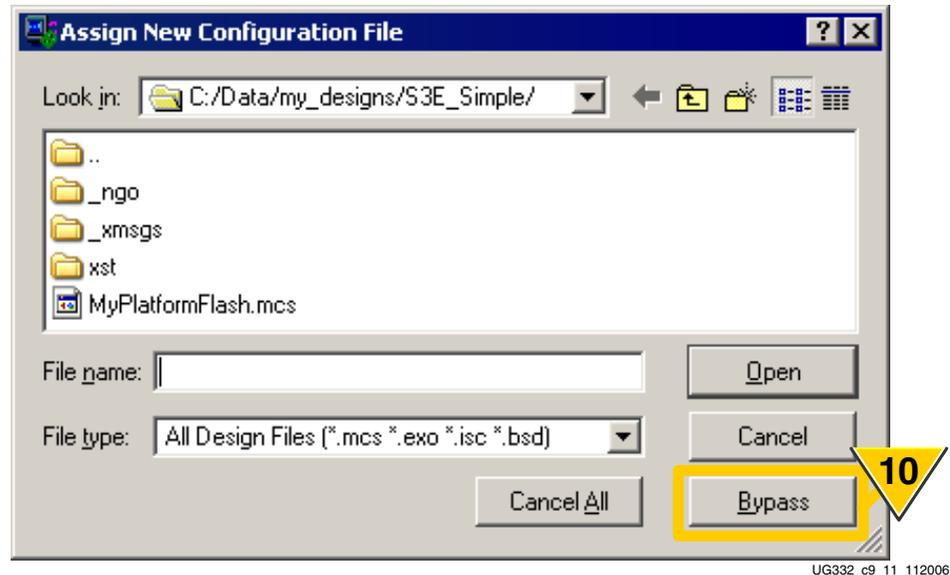

Figure 9-13: Click Bypass to Skip CPLD Programming
- Similarly, click Bypass to skip programming of the CPLD, as shown in Figure 9-13.